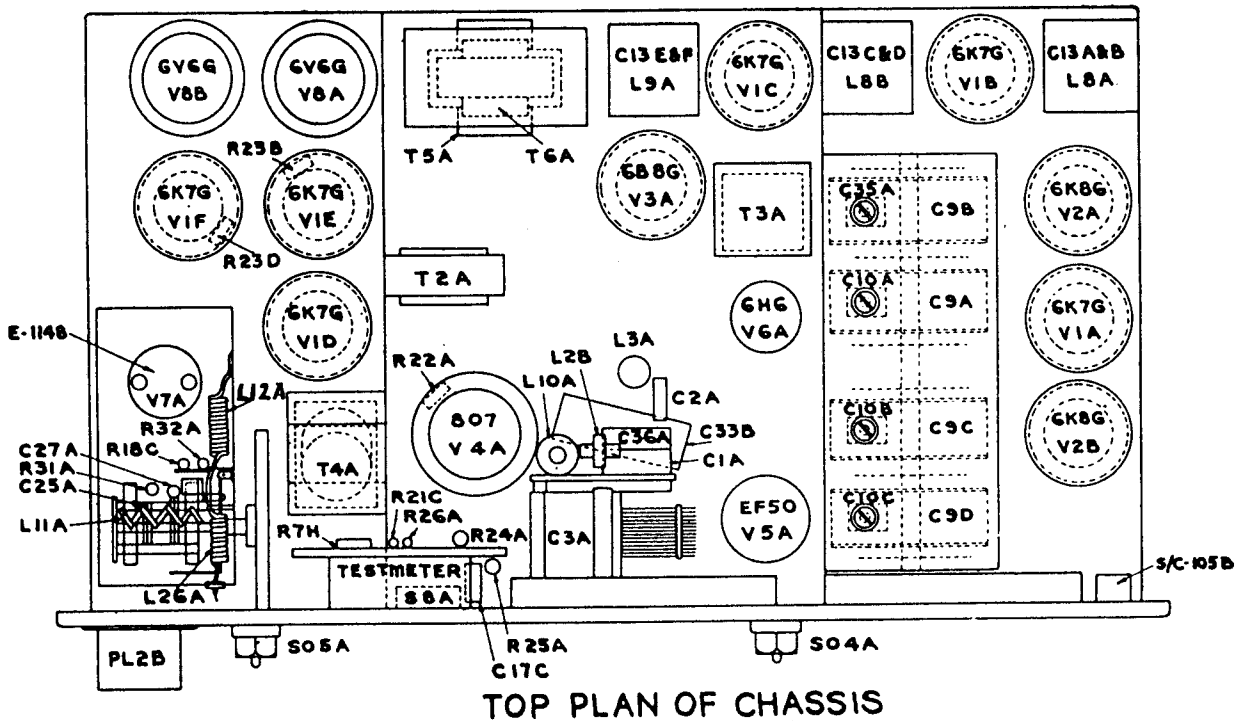

FIG. 11—VALVE POSITIONS (Top View of Chassis)
16. The location of each valve is shown in Fig. 11.